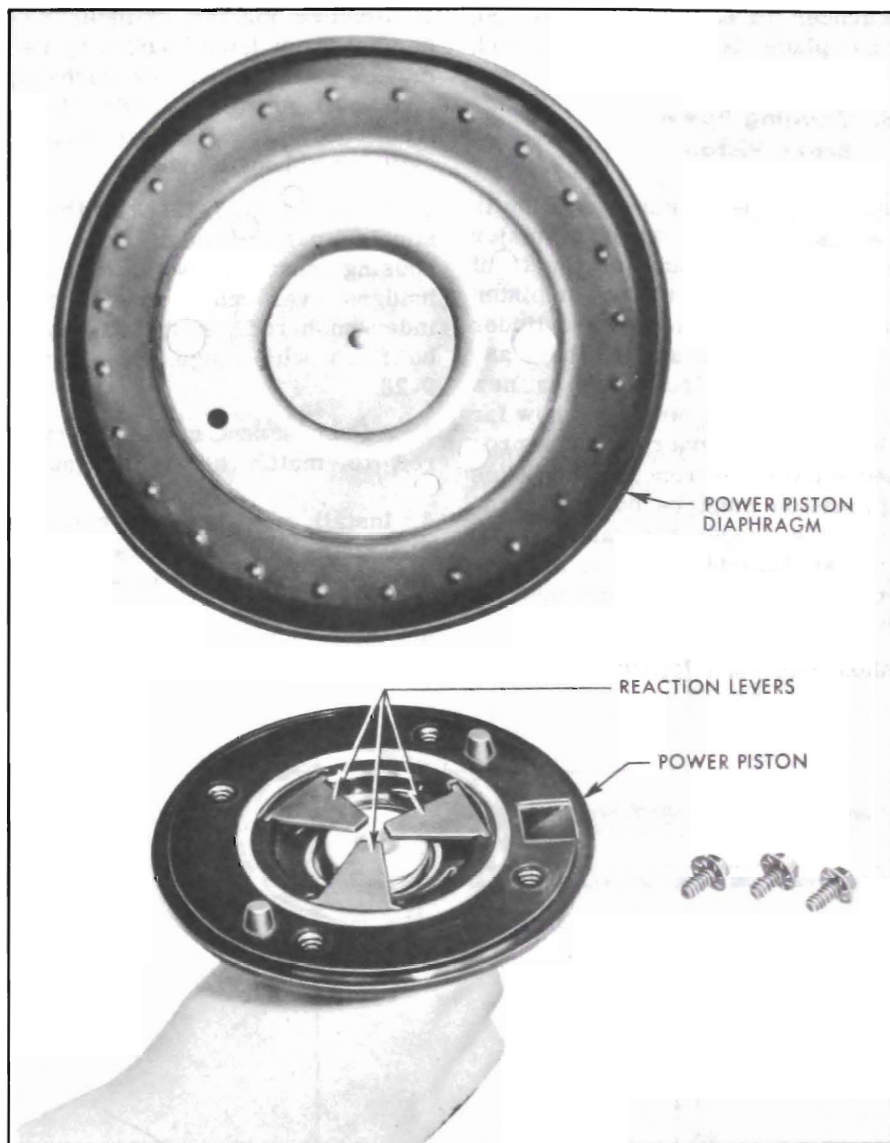

Figure 9-25—Installing Parts in Power Piston
9. Wipe a thin coat of silicone grease on both sides of reaction levers. Place wide ends of reaction levers in their seats in the power piston, and rest narrow ends on air valve reaction extension. See Figure 9-25.